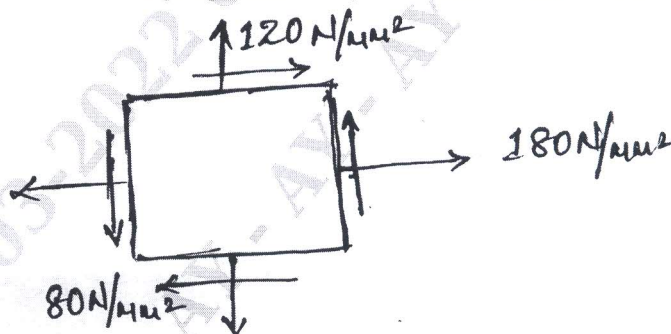

Fig Q3(b)
- b. The state of stress at a point in a strained material is shown in Fig Q3(b). Determine :